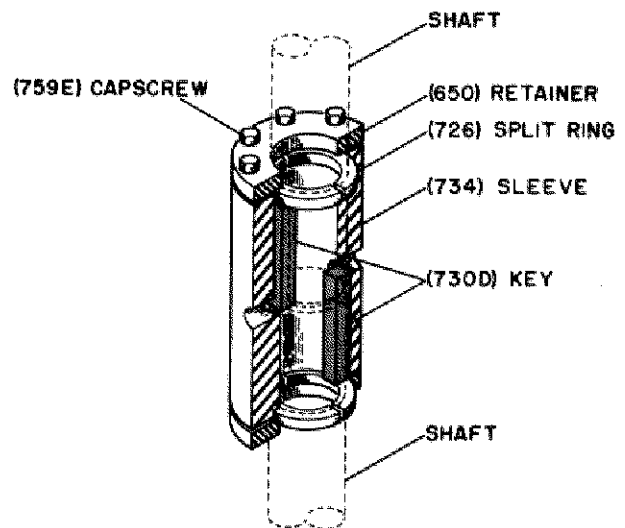

FIGURE 5-3. KEYED SHAFT COUPLING
1. Install retainer (650) and insert key (730D) onto shaft. (See Figure 5-3.)
2. Lower coupling sleeve (734) onto shaft approximately one inch.
3. Insert split ring (726) and lower coupling sleeve until it bottoms against split ring.
4. Secure retainer (650) with capscrews (759E).
5. Install retainer (650), insert key (730D) on lineshaft (646) and carefully lower lineshaft approximately one inch. Install split ring (726) on lineshaft.
6. Lower lineshaft until split ring (726) bottoms in the groove.
7. Secure retainer (650) with capscrews (759E).